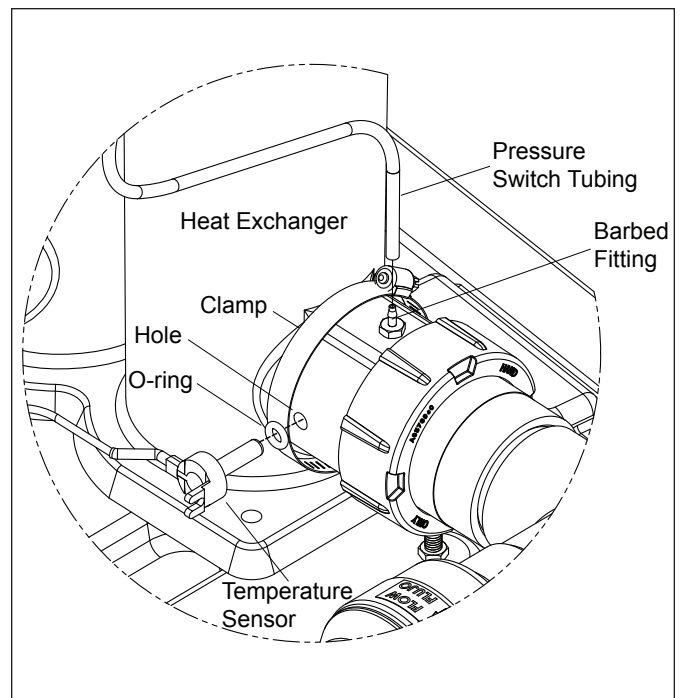

Figure 11. Install Pressure Switch Tubing and Water Temperature Sensor
1. Install the water pressure switch tubing on the barbed fitting on the inlet of the heat exchanger. See Figure 11.
2. Install the water temperature sensor with the o-ring and secure them to the heat exchanger with the clamp. See Figure 11.